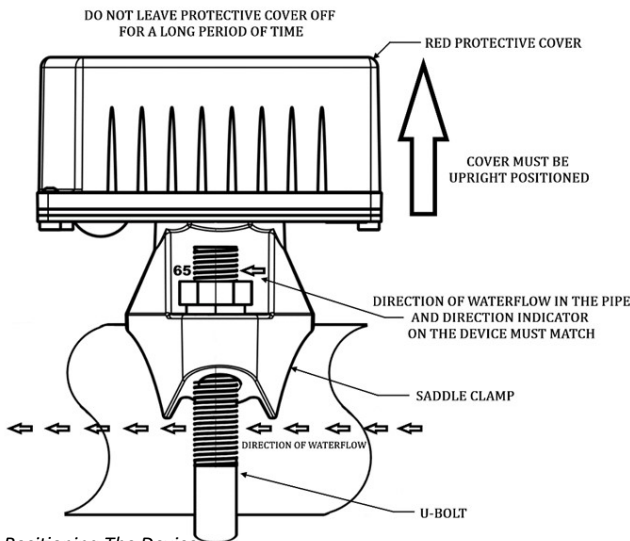

Fig.1: Positioning The Device
- Device must be installed on top of a horizontal run pipe (red cover upside) and the flow direction marks on the device must match the direction of flow in the pipe. Otherwise, the product will not operate. (see Fig.1)